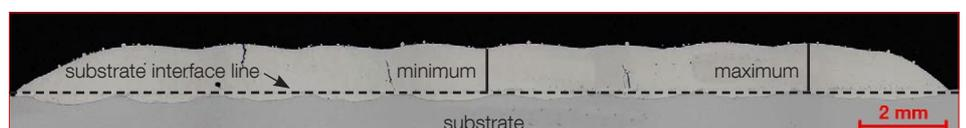

Figure 2: How to measure a coating thickness
- **Deposition Efficiency (DE)** indicates the percentage of the total powder used that lands in the melt pool and therefore builds the coating. Lower DE means less efficient material consumption.
- **Coating Thickness** per pass indicates the thickness we can achieve. It is also important to differentiate between gross and net thickness. As we do work with overlapped beads, it results in the formation of minimum and maximum thickness values. The proper way of measuring thickness is shown in Figure 2.